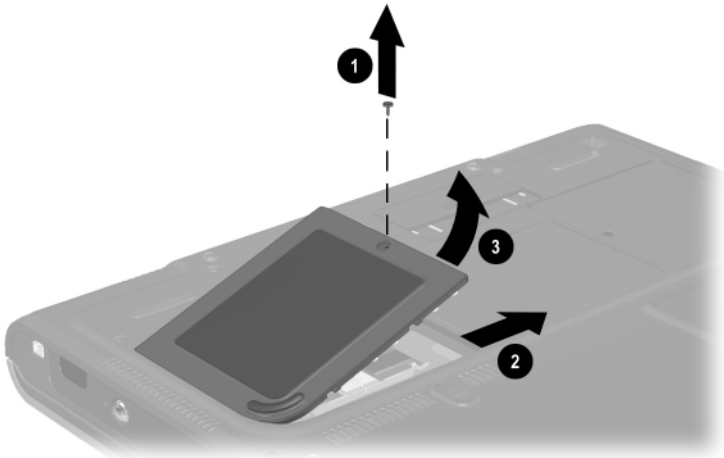

Figure 5-10. Removing the Memory Expansion Compartment Cover
3. Remove the PM2.5 × 4.0 screw ❶ that secures the memory expansion compartment cover to the base enclosure (Figure 5-10).
4. Slide the cover to the right ❷.
5. Lift the right edge of the cover and swing it to the left ❸.